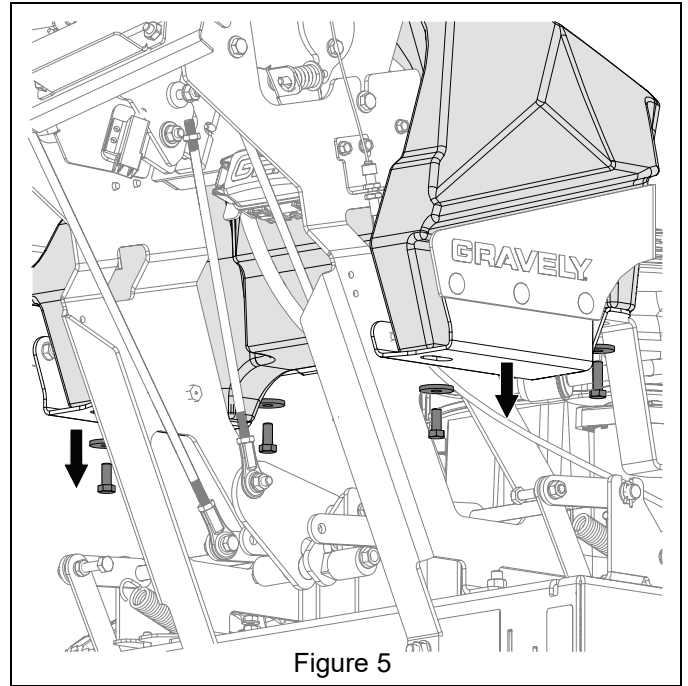

Figure 5
6. Remove and retain three 5/16" x 3/4" hex bolts and flat washers and one 5/16" x 1" hex bolt and flat washer securing left and right side of fuel tank. See Figure 5.